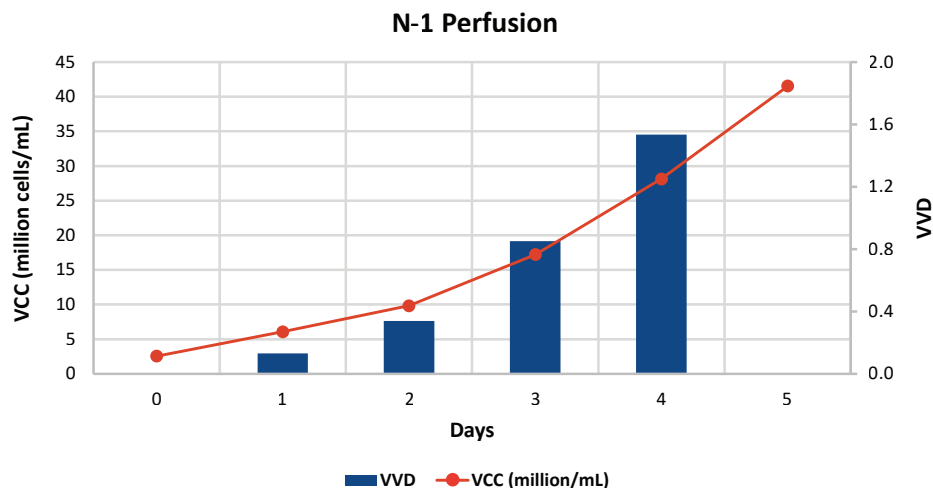

Figure 5: Vessel Volume Per Day (VVD) and Viable Cell Concentration (VCC) for N-1 perfusion process.
- Seed Train and Perfusion:** HSDCB reduced seed train time by 30–40%. By combining the HSDCB and N-1 perfusion, at N-1 stage reached ~40 million cells/mL by Day 5 (Figure 5).